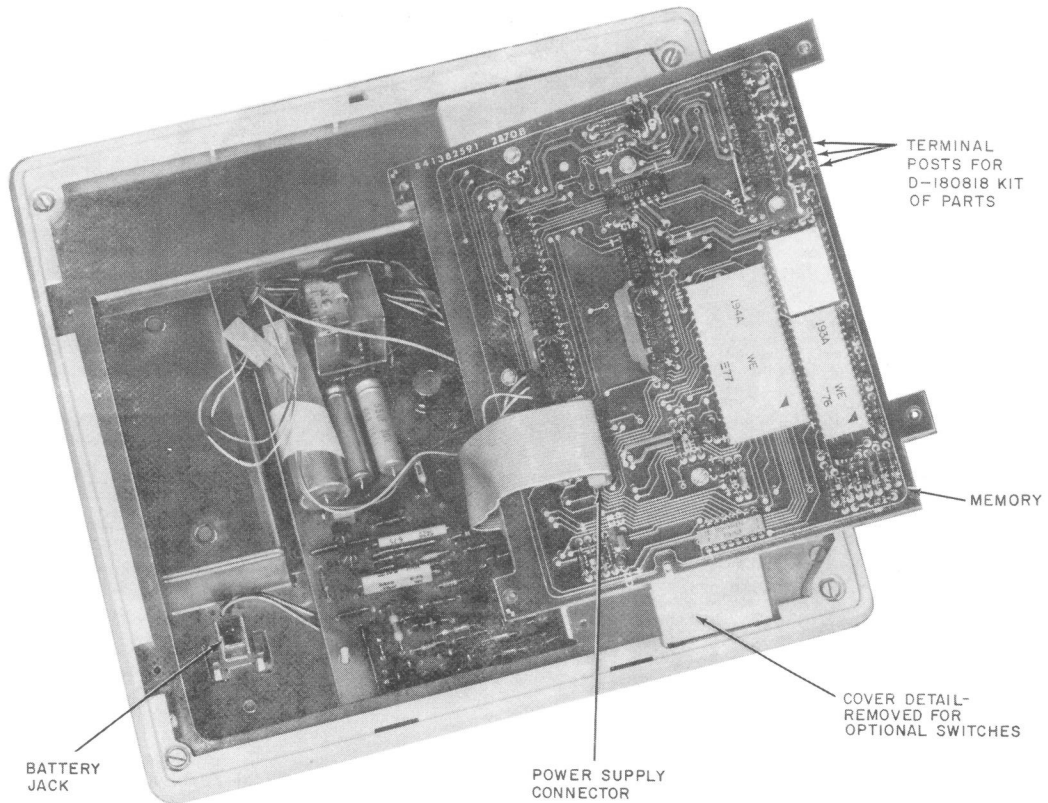

Fig. 4—2870B1M Dial, Internal View
- (5) Rotate the left edge of the memory upward as shown in (Fig. 4).
- (6) Mount switch below dial with the two screws provided.
- (4) Rotate the left edge of the memory upward and over dial area as shown in Fig. 4.
- (5) Disengage the connector(s) by pulling on them perpendicular to the printed wiring board.
- (6) Replace the memory by engaging the dial connector (2870B1M only) first. The connector(s) are keyed, one position is filled and should fit over the vacant position in the row of pins. The flat power supply cable should not be twisted.
- (7) Reassemble adjunct dial.
- (8) Reconnect battery and power unit.
- (9) Test per paragraph 3.06 or 3.07 as required.